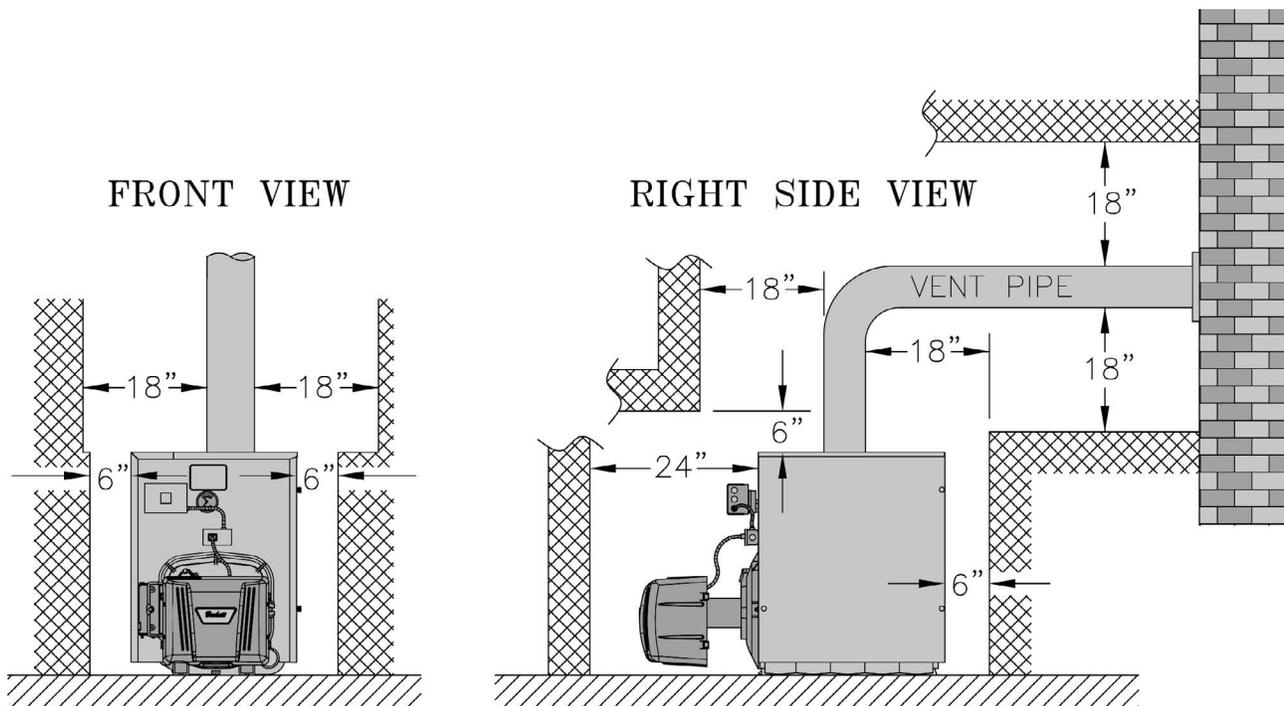

Figure 2-1: Minimum Installation Clearances To Combustible Materials (Inches)
5. For minimum clearances to combustibles materials. See Figure 2-1.